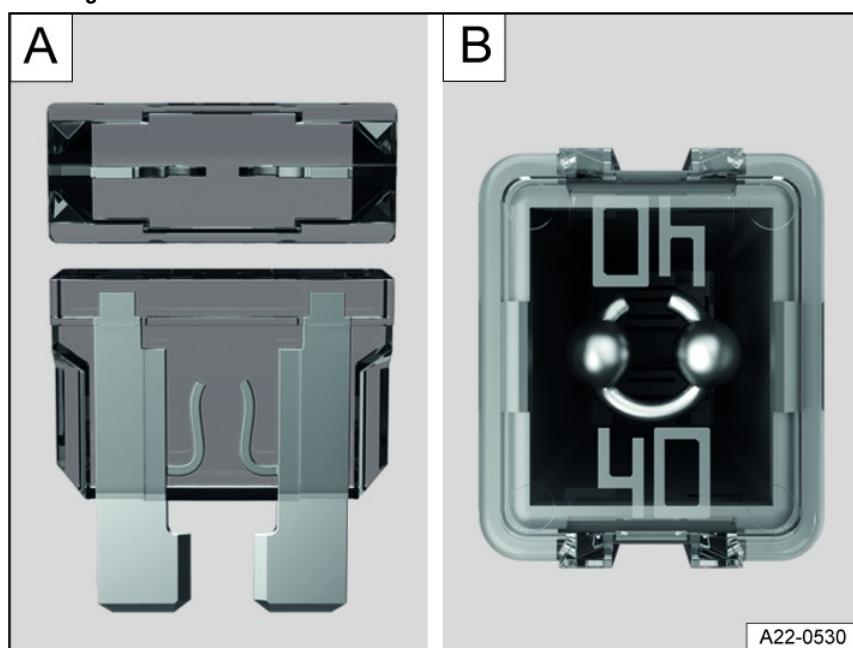

Fig. 191 Blown fuse (general example).
- A blown flat connector fuse (ATO®, MINI®) has metal strips that have burned through, which you can see through the transparent housing from above and from the side fig. 191 A.
- A blown block fuse (JCASE®) is recognizable by the melted metal strip seen through the transparent housing from above fig. 191 B.